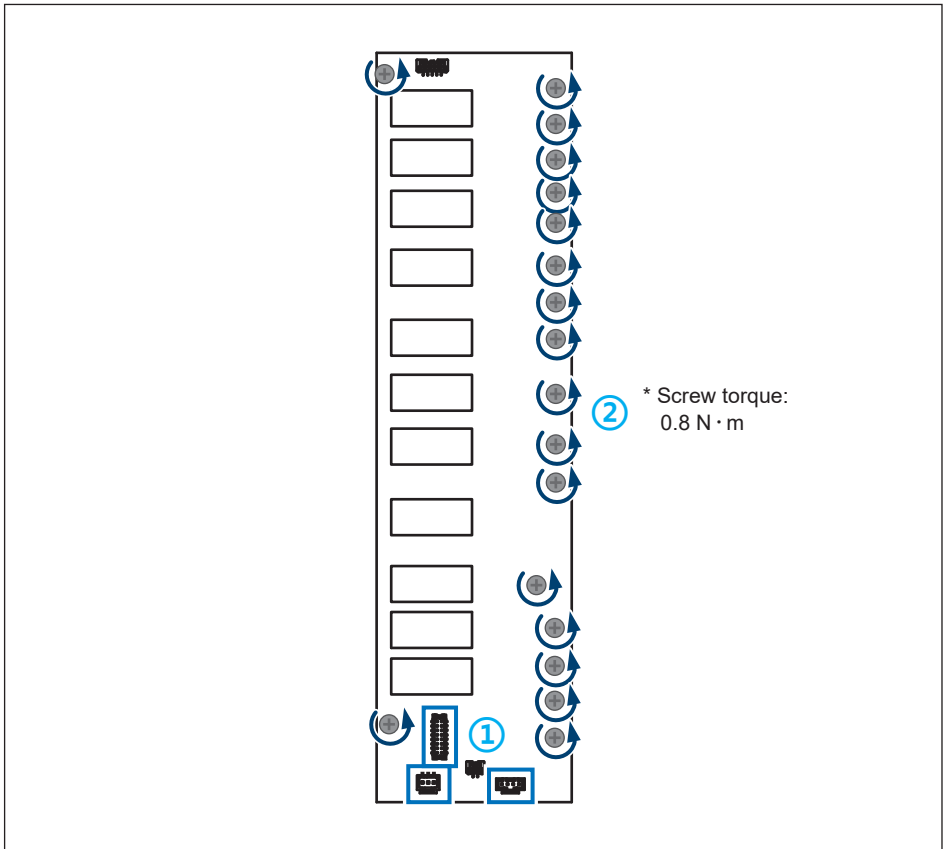

Figure 5-9: Remove sensing cable and screws
4. Press to release the lock of the header then remove the sensing cable of DC SPD. (**Figure 5-9-①**)
5. Loose 18 screws to remove DC SPD. (**Figure 5-9-②**)